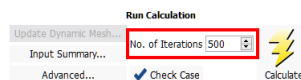

Figure 54: Set the maximum number of iterations for the calculation.
- In the *Run Calculation* group of the *Solving* Tab, enter 500 for *No. of Iterations*, as shown in figure 54.